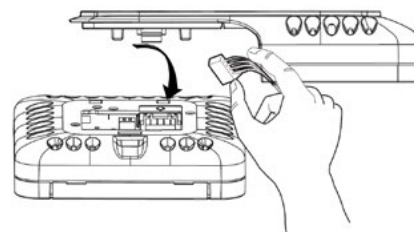

Fig. 8
7. plug the 4-pin connector back in (Fig. 8);